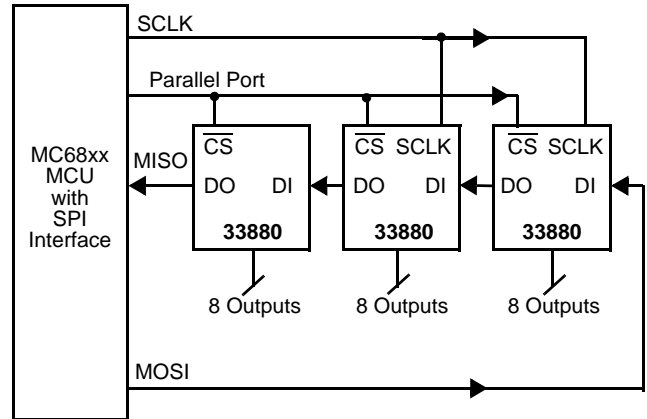

Figure 22. 33880 SPI System Daisy Chain
Figure 22 illustrates the Daisy Chain configuration using the 33880. Data from the MCU is clocked daisy chain through each device while the Chip Select (CS) bit is commanded low by the MCU. During each clock cycle output status from the daisy chain, the 33880 is being transferred to the MCU via the